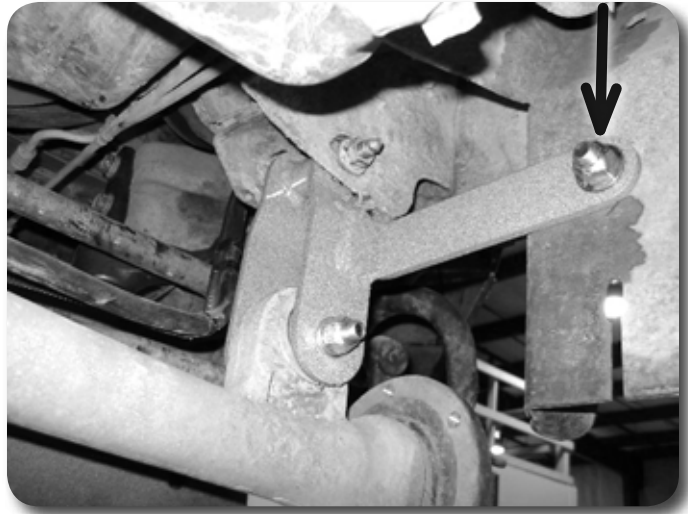

Figure 12
32. Locate the new passenger's side differential bracket and install in the factory frame mount with the original hardware. Figure 12 Leave loose. When installed the "wing" of the bracket will point toward the rear of the vehicle.
34. Attach the "wing" of the passenger's side differential bracket to the back of the control arm pocket. There is an existing hole in the pocket that will line up with the mount hole in the "wing". Fasten with 1/2" x 1-1/4" bolt, nut, 1/2" SAE (small) washer and 1/2" USS (large) washer. **Figure 12** Use the large USS washer on the outside surface of the control arm pocket.